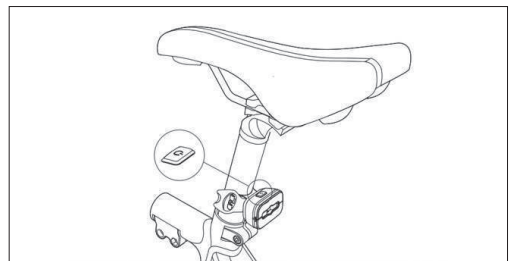

Figure 9-2
- Mount the tail light on the saddle pipe, as shown in **Figure 9-2**.